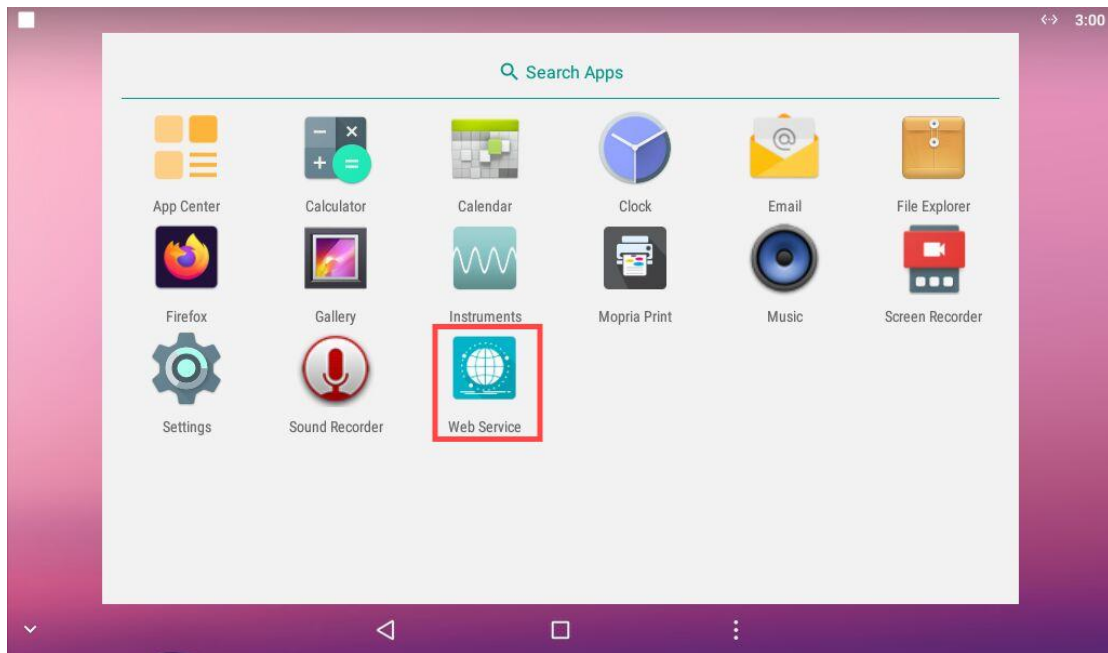

Figure 2-2
- (2) Click **"App Drawer"** to enter System built-in application list to find **"Web Service"** APP as shown in Figure 2-2.